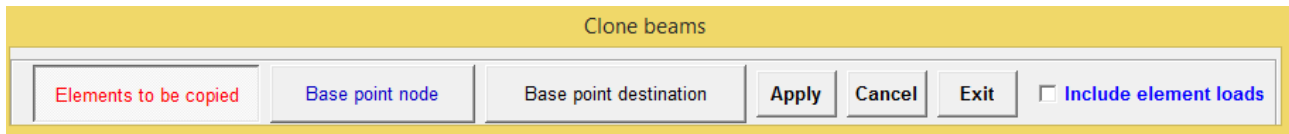

Figure 21
**Step 1:** Click button  Figure 21 will appear. (Note that button 'Elements to be copied' is in clicked mode by default. This means that the current command is to select the elements to be copied).